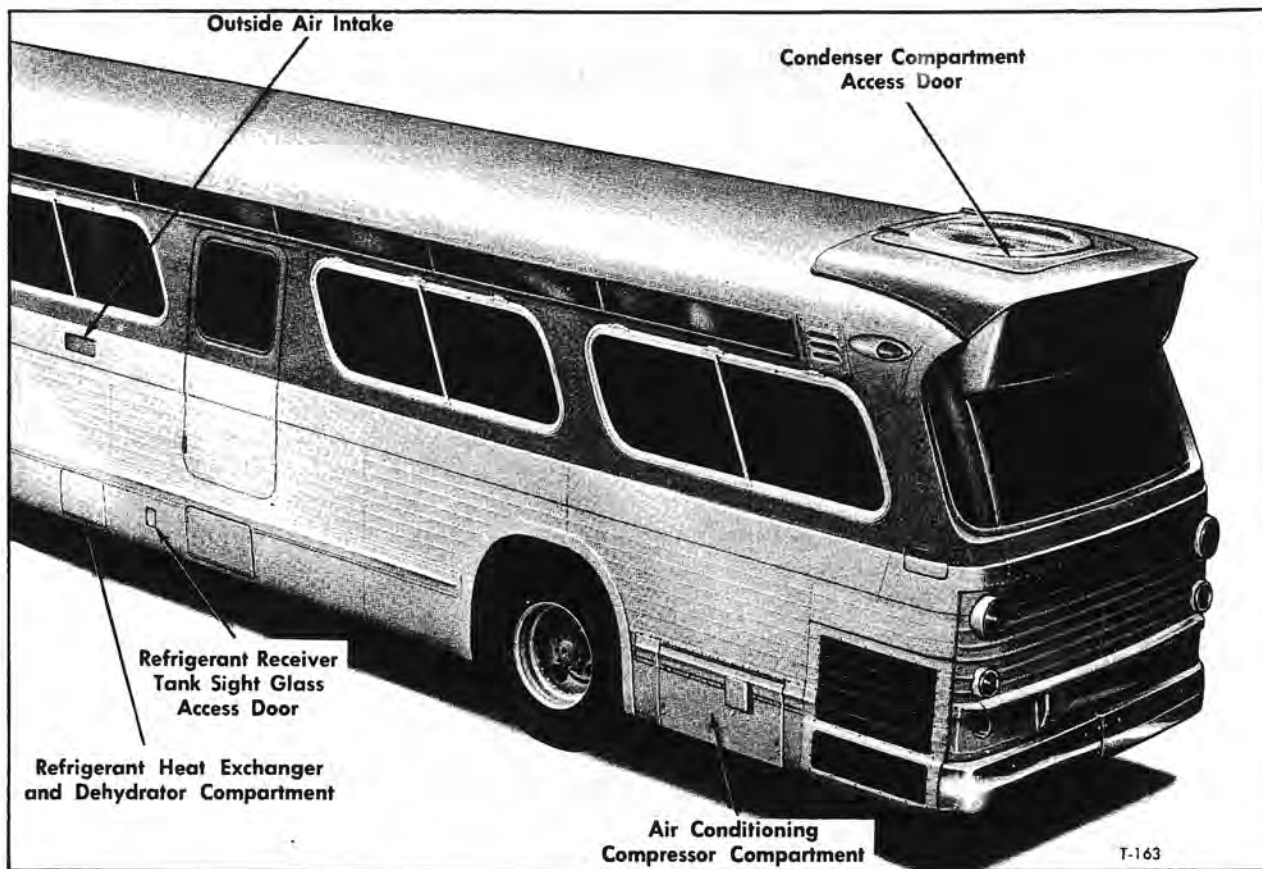
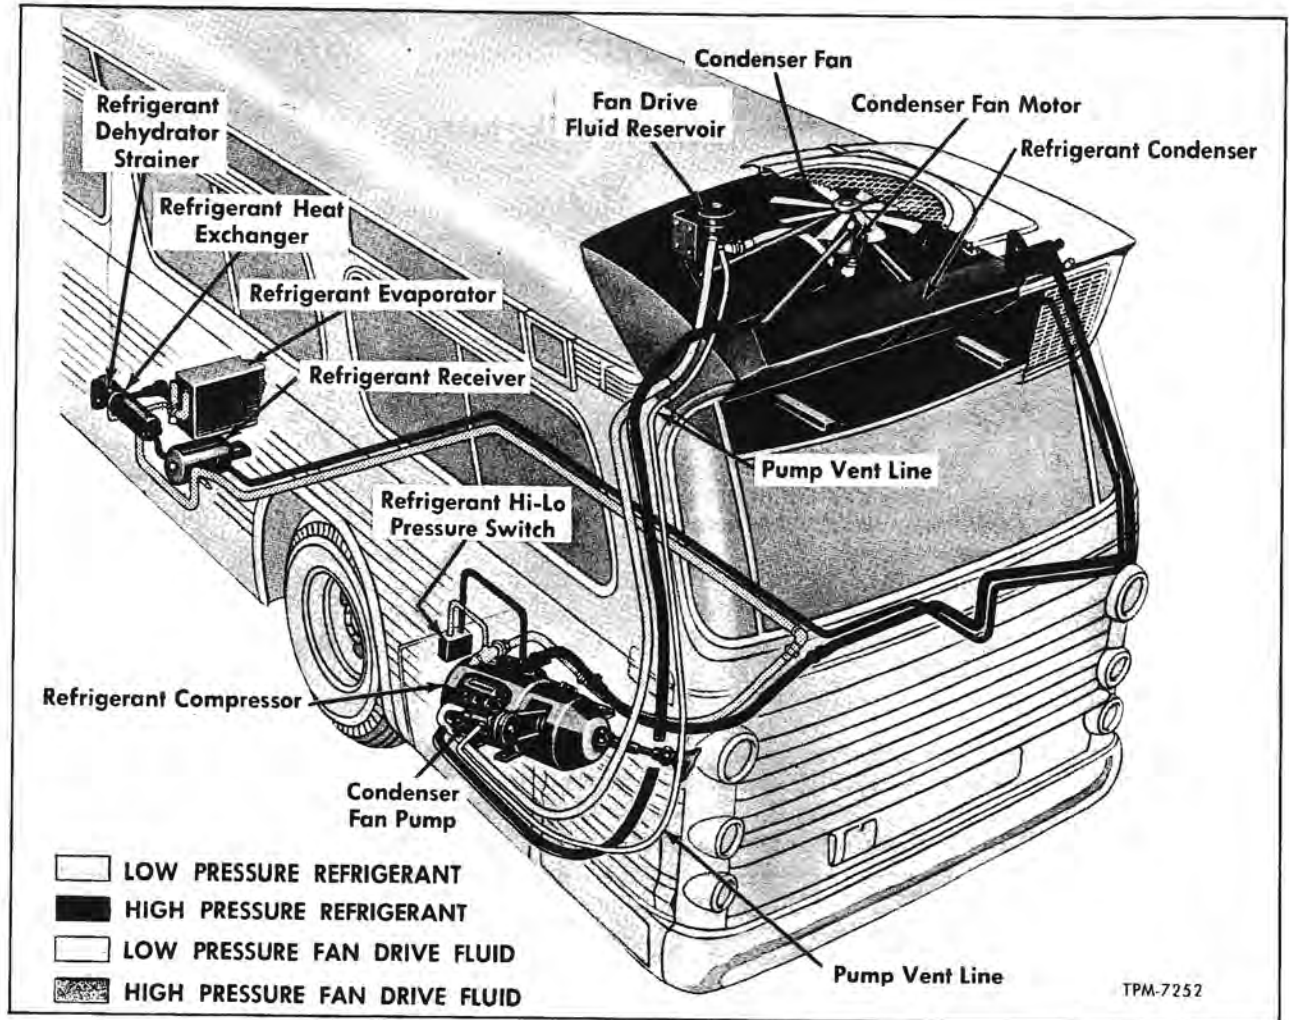

Figure 1—Access Doors to Air Conditioning Units
Figure 2—Refrigerant Lines and Condenser Fan Drive Fluid Lines (Typical)
The air conditioning system units are accessible in coach through access doors shown in figure 1. System units are located schematically in coach as shown in figure 2.
Briefly, the air conditioning system is comprised of the following system and controls. Refer to figure 2.
3. A Refrigerant Heat Exchanger of tank and internal coil-type is mounted into both high pressure liquid line and low pressure gas line. Heat exchanger is accessible after opening side closure door near left center of coach (fig. 1).